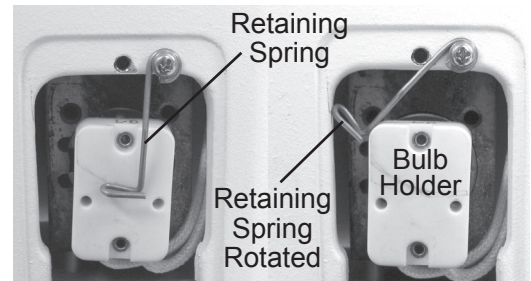

Figure MM-2 Securing Wire
3. Swing the Retaining Spring away from the Bulb. Refer to Figure MM-2.
7. Move the Retaining Spring back into its original position. Refer to Figure MM-2.